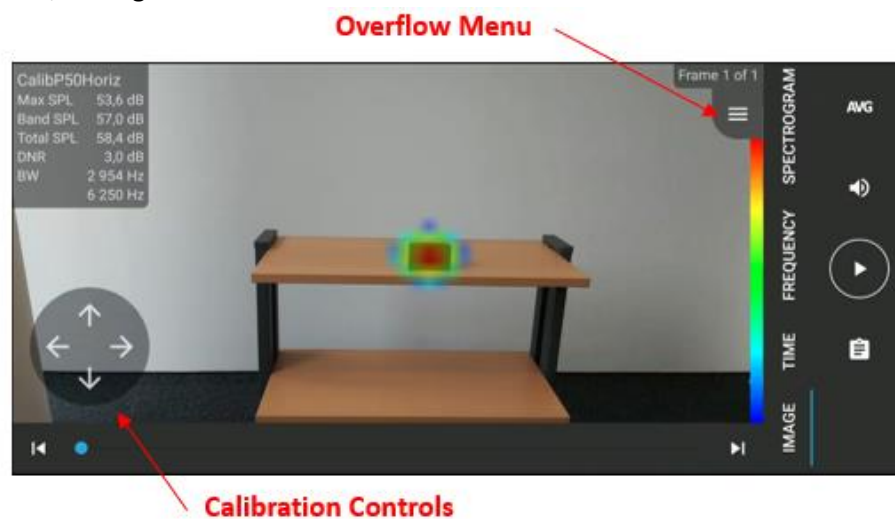

Figure 40 Aligning the acoustic source and the optical image of the loudspeaker.
3. Use the displayed cursor keys to align the acoustic source and the optical image of the loudspeaker, see Figure 40.